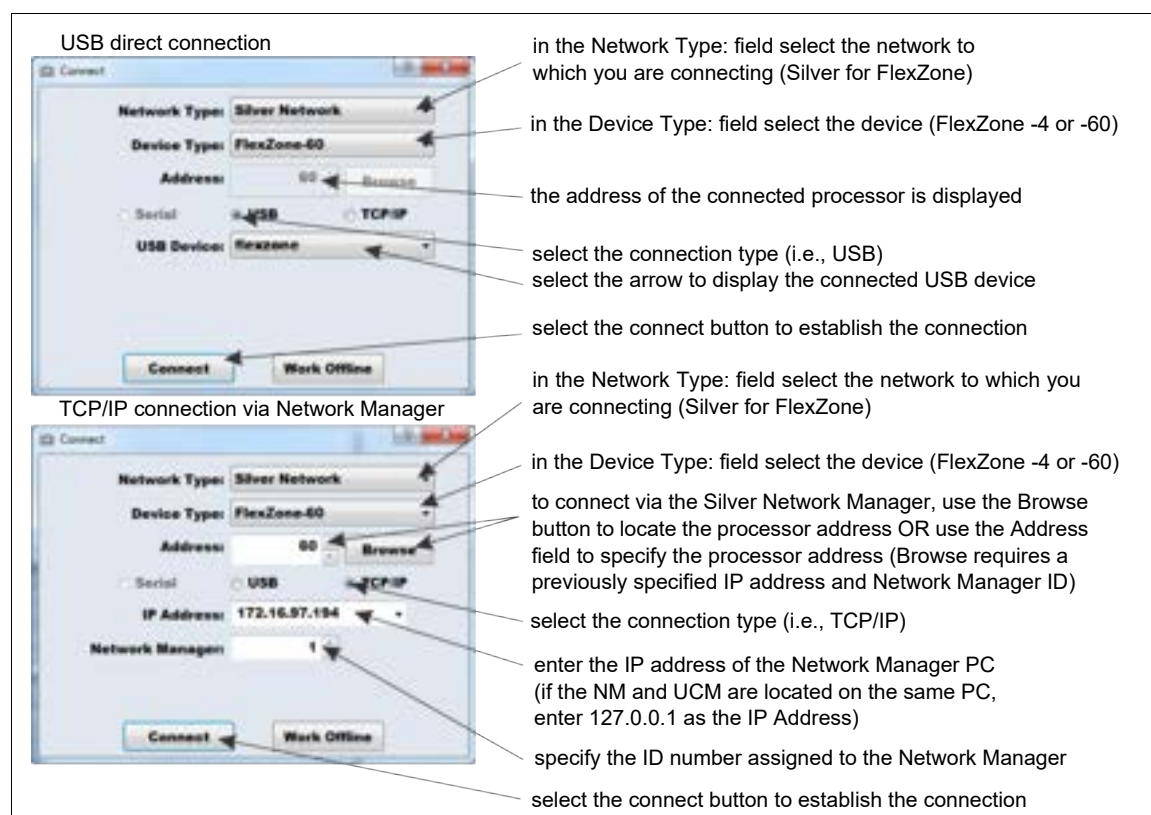

Figure 76: Connecting the UCM
2. Start the UCM software (the UCM Connect dialog displays see Figure 76:).